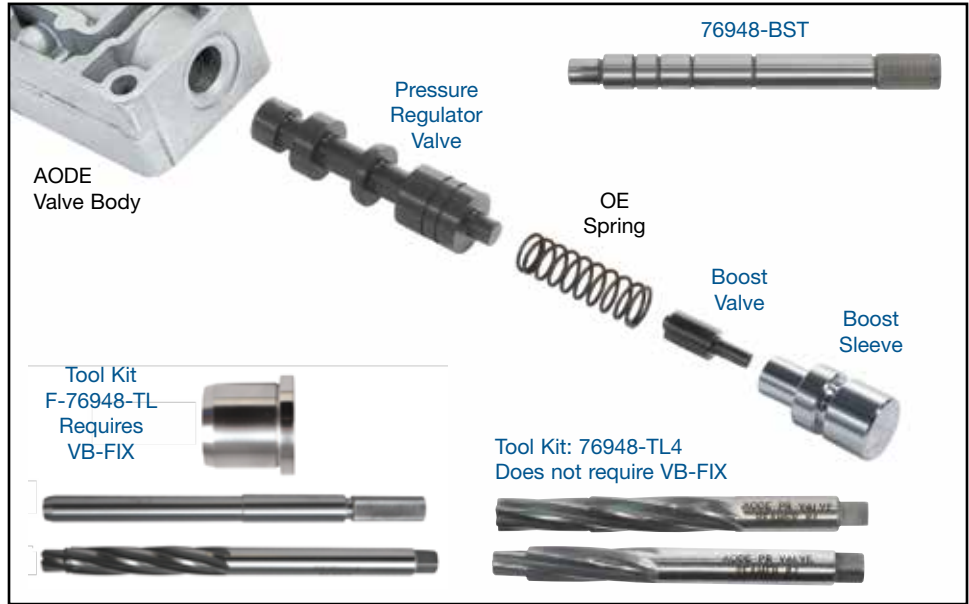

Figure 1
1. Identify Early vs. Late Valve Body (Figure 1)
- a. Identify valve body and valve application (**Figure 1**).